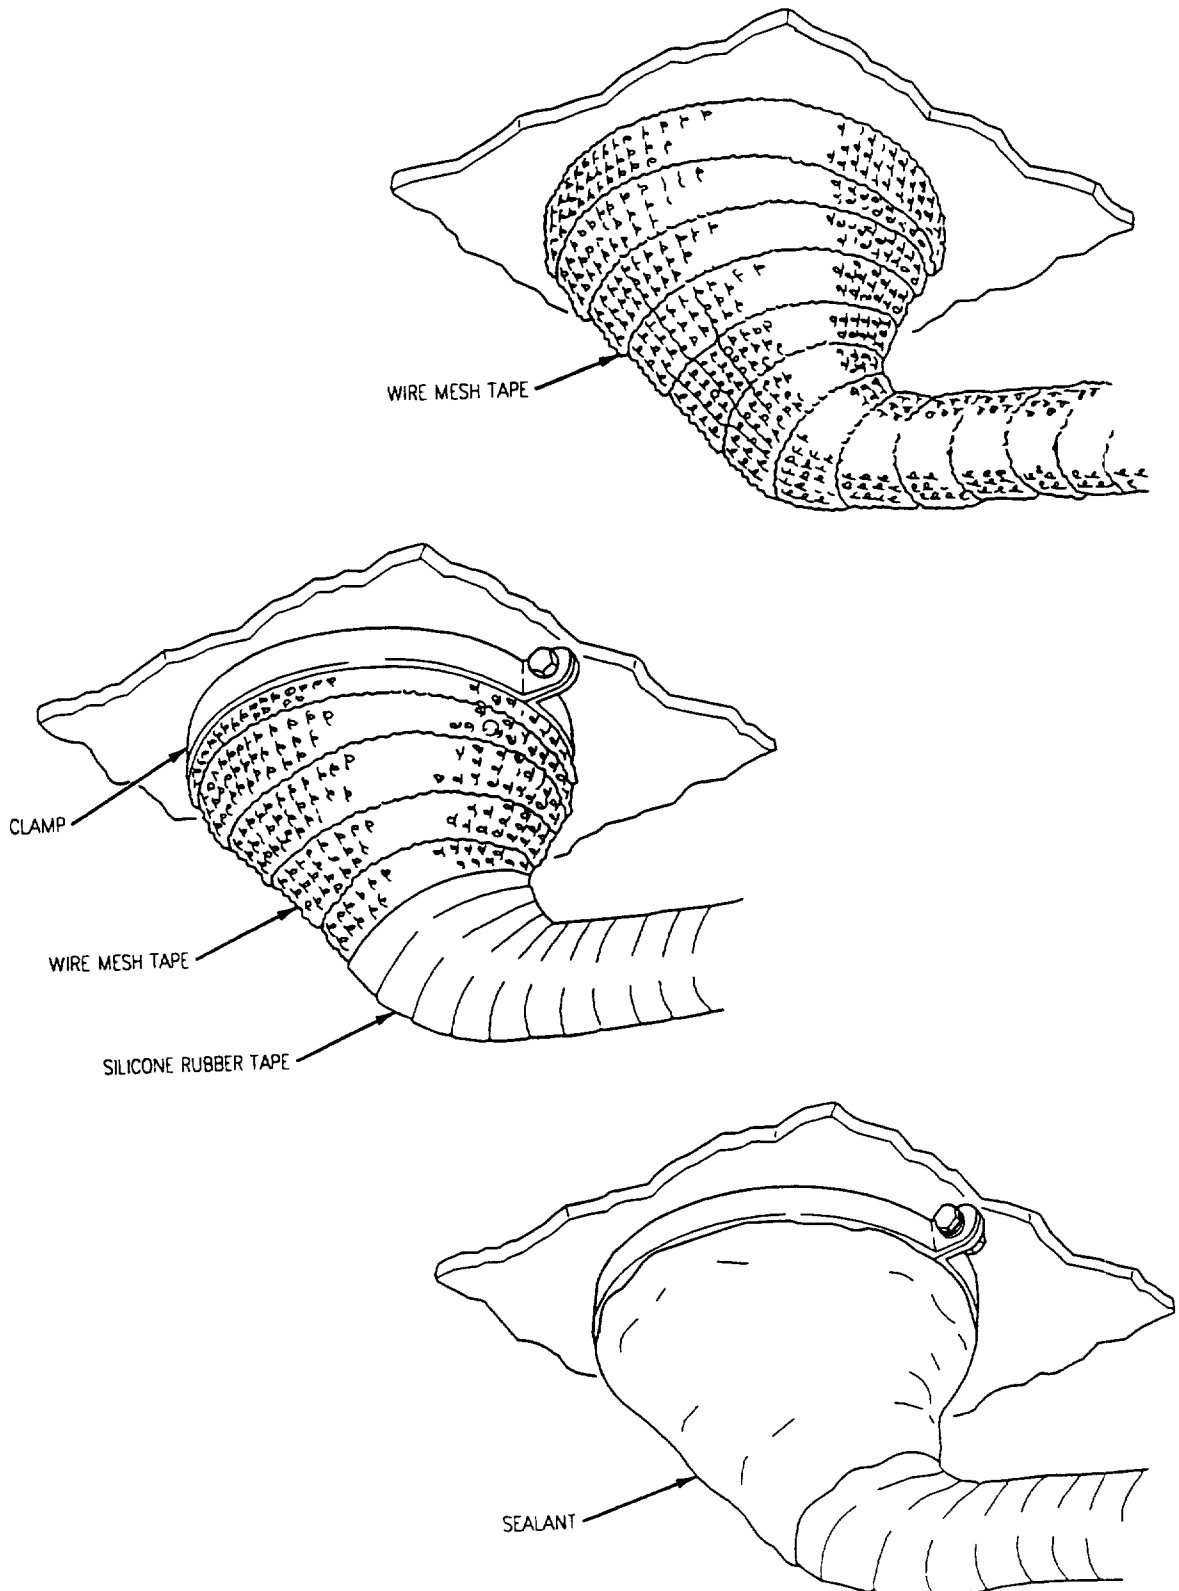

Figure 19. Sealing EMI Cable Assemblies
- e. Fashion sealant to a smooth surface using wooden tongue depressor (Figure 19).